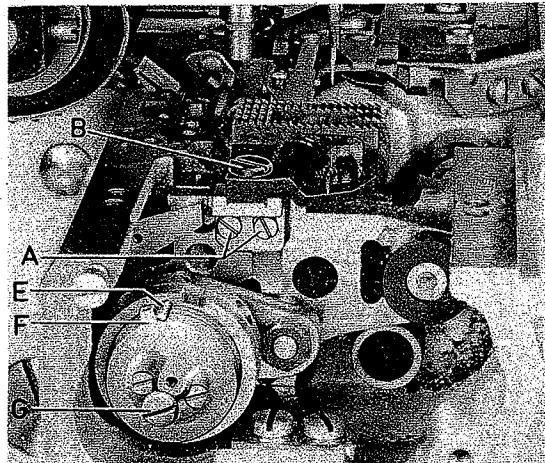

Fig. 24
This adjustment is made with screws (A, Fig. 24 and Fig. 24 A).
The feed dogs are centered across the line-of-feed to have equal clearance on all sides at the feed slots in the throat plate. For this adjustment, loosen screw (B, Fig. 24 and Fig. 24 A) and position feed dogs as required. Retighten screws. The differential feed dog can be set in line-of-feed to the front or to the rear by loosening screws (C, Fig. 24 A) and rotating eccentric (D) in sewing direction. Retighten screws (C).